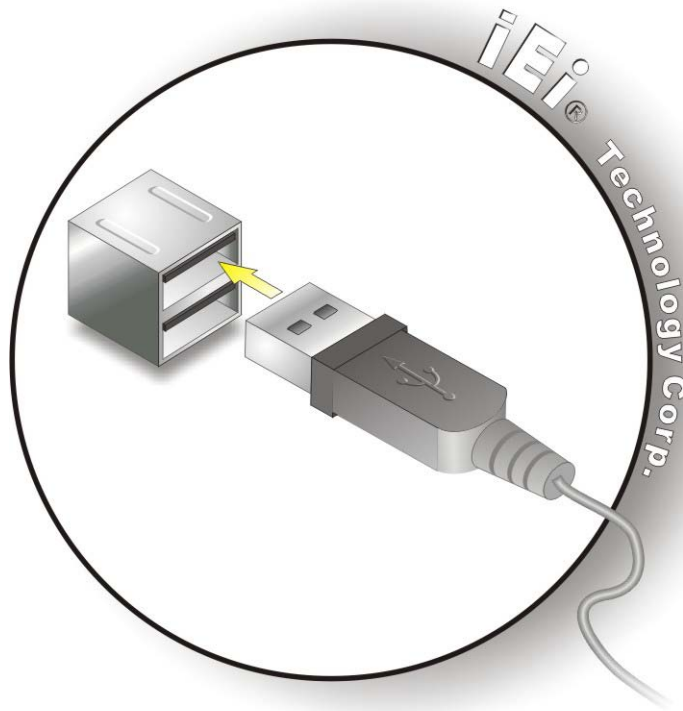

Figure 4-19: USB Connector
- Step 3: Insert the VGA connector** Once the connectors are properly aligned with the insert the male connector from the VGA screen into the female connector on the NANO-HM650. See Figure 4-19.